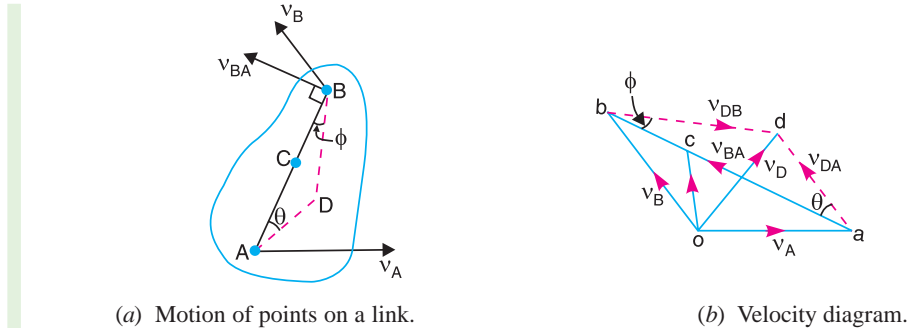

Fig. 7.4
Consider two points A and B on a link as shown in Fig. 7.4 (a). Let the absolute velocity of the point A *i.e.* v_A is known in magnitude and direction and the absolute velocity of the point B *i.e.* v_B is known in direction only. Then the velocity of B may be determined by drawing the velocity diagram as shown in Fig. 7.4 (b). The velocity diagram is drawn as follows :
3. Through a , draw a line perpendicular to AB of Fig. 7.4 (a). This line will represent the velocity of B with respect to A , *i.e.* v_{BA} .
2. The absolute velocity of any point C on AB may be determined by dividing vector ab at c in the same ratio as C divides AB in Fig. 7.4 (a).
3. The absolute velocity of any other point D outside AB , as shown in Fig. 7.4 (a), may also be obtained by completing the velocity triangle abd and similar to triangle ABD , as shown in Fig. 7.4 (b).